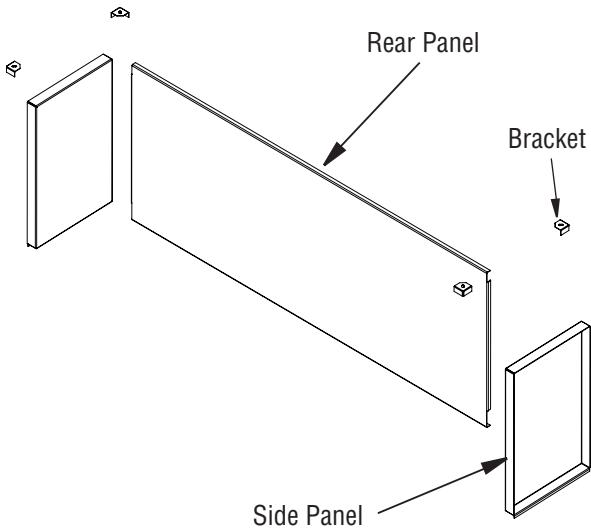

Figure 21 - Removing Rear Interior Wall for See-Thru Applications
1. Through firebox opening in the front of the fireplace, unscrew 4 corner brackets from the firebox top (*See Figure 21*).
4. Remove rear interior wall (see Figure 21, Page 15).